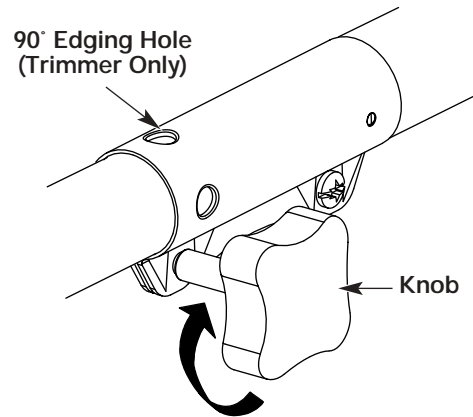

Fig. 25
3. Turn the knob clockwise to tighten (Fig. 25).
For edging (when using the line head cutting attachment with EZ-Link™ models), lock the release button of the cutting attachment into the **90° edging hole** (Fig. 25).